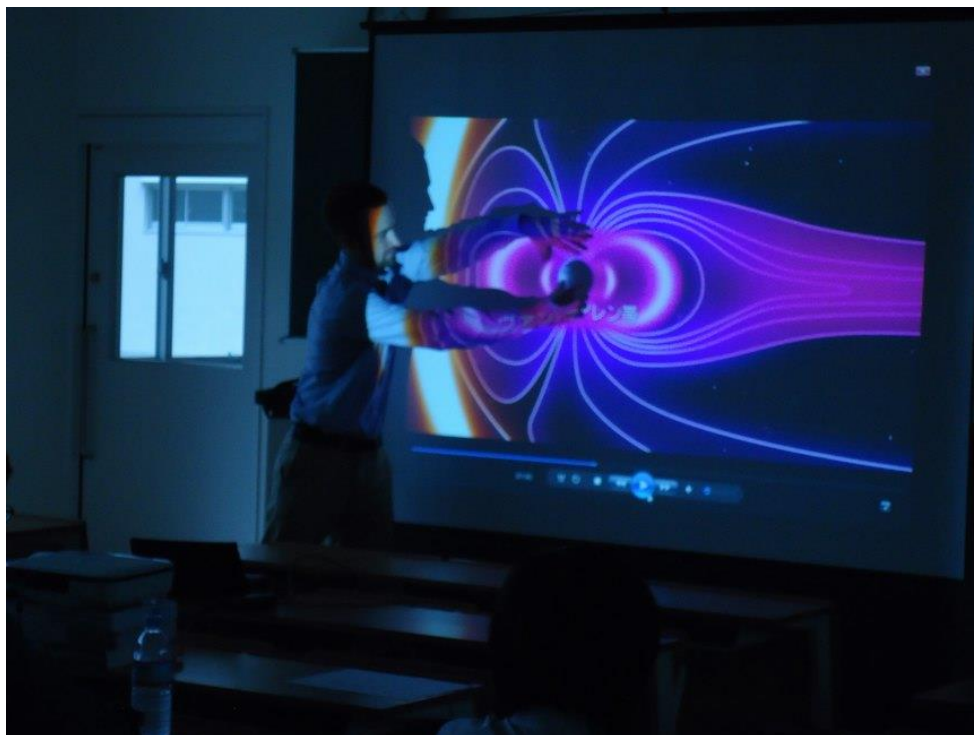

Figure 3-presenting at a JSPS Science Dialogue talk
- Participate in the JSPS Science Dialogue programme giving outreach talks in simple English at schools around the country (Figure 3).